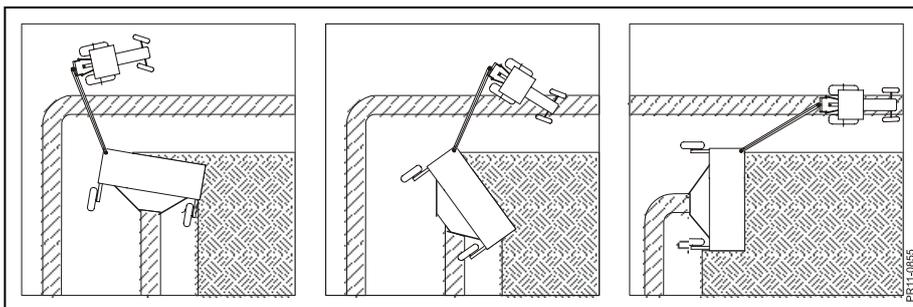

Fig. 3-3
**Fig. 3-3** The swivel gearbox allows a turn of 90° – and more – without vibrations in the transmission. Turning in the corners of the field is reduced from the usual approx. 12 sec. to only approx. 3, because the machine practically is turning around its own centre line.